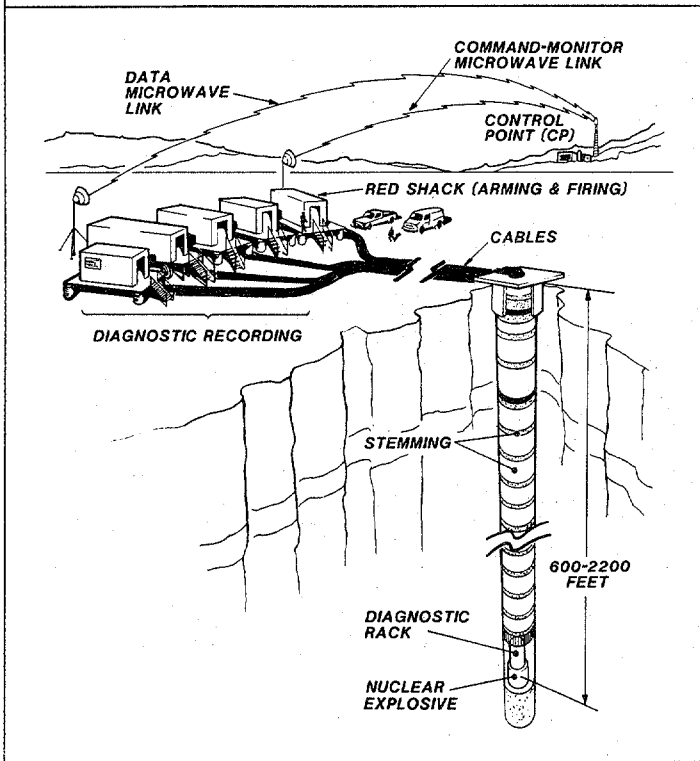

Fig. 1
NTS, emphasizing preparations, safety precautions, device emplacement, and detonation. Figure 1 schematically depicts the general layout for a typical weapon test.
device, must be designed to detect and record these data before the sensors and coaxial cables are destroyed by the detonation, usually within a fraction of a millisecond. The information is sent uphole by cables or fiber optics to very fast optical recording devices or to digitizers for storage in a computer memory. The recording stations are only a thousand feet or so from ground zero and so must be able to withstand the ground shock from the detonation. Much of the data is also transmitted by microwave to the control point (CP) several miles away for recording (see Fig. 1).